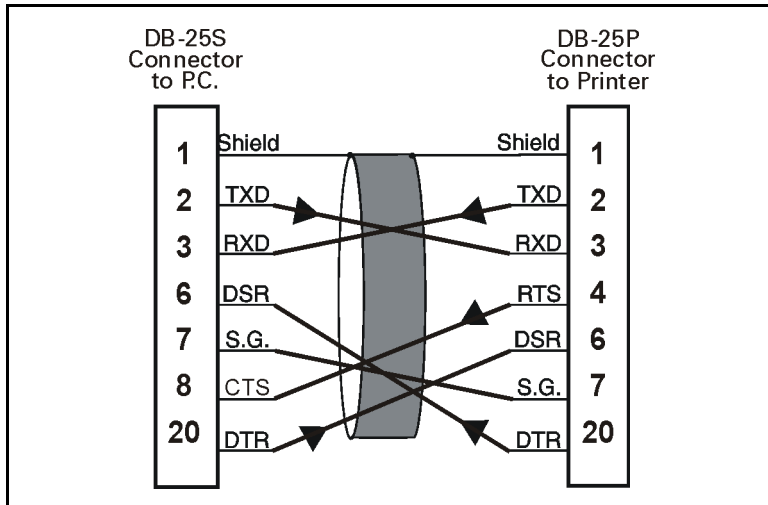

Figure 38
- **25-pin to 25-pin cable** – (null modem cable) must have a 25-pin “D” type (DB-25S) connector on the end that is plugged into the serial port at the computer and a 25-pin “D” type (DB-25P) connector on the other end that is plugged into the connector at the rear of the printer. Figure 38 shows the required cable connections.